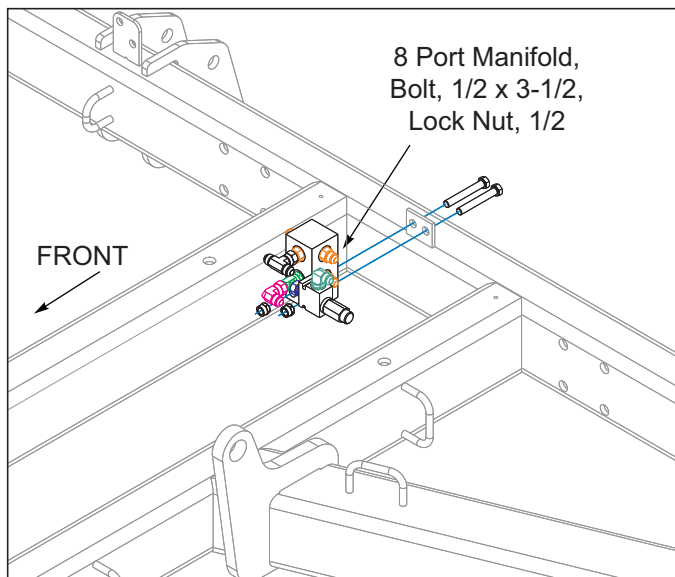

Figure 3-10: 8 Port Manifold 7531-26'-29'
5. Models 7531-26'-29' install the 8 port manifold, bulkhead mount in position shown, **See Figure 3-10**, using 1/2 x 4 bolts and 1/2 lock nuts.